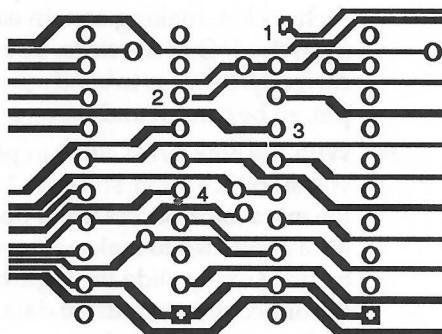

**Figure 10-4** 4164 RAM chip removal details. Courtesy of Sophisticated Circuits, Inc.
2. Use a pair of wire cutters to cut off all 16 terminal pins on all 16 of the RAM chips. As illustrated in Figure 10-4, cut the terminal pins as close to the chip bodies as possible. Since there are 16 pins on each of the 16 chips, this step involves making 256 cuts!